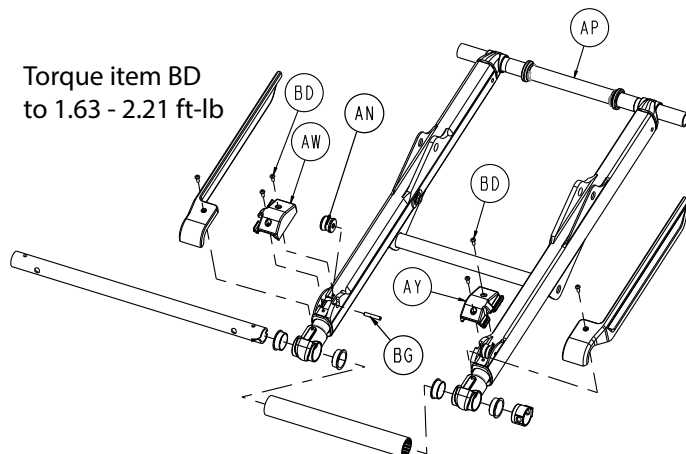

Figure 80 – Lift assembly components
8. Using a T25 Torx driver, remove the two button head cap screws (BD) that secure the roller cover (AW, AY) to the outer lift A-frame weldment (AP) (Figure 80). Save the screws.
12. Using a small punch, push the dowel pin (BG) through the external roller assembly (AN) (Figure 80). Remove and save the dowel pin and external roller assembly.